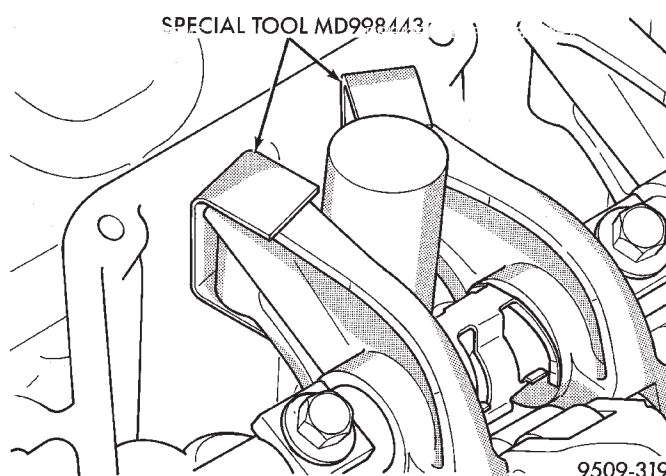

Fig. 35 Auto Lash Adjuster Retainers
(1) Remove cylinder head cover using procedure outlined in this section.
(2) Identify the rocker arm shaft assemblies before removal.
(3) Install auto lash adjuster retainers, Special Tool MD-998443 onto rocker arms (Fig. 35). These retainers hold the lash adjusters into position when the rocker arms are serviced.
(4) Loosen the attaching fasteners. Remove rocker arm shaft assemblies from cylinder head.